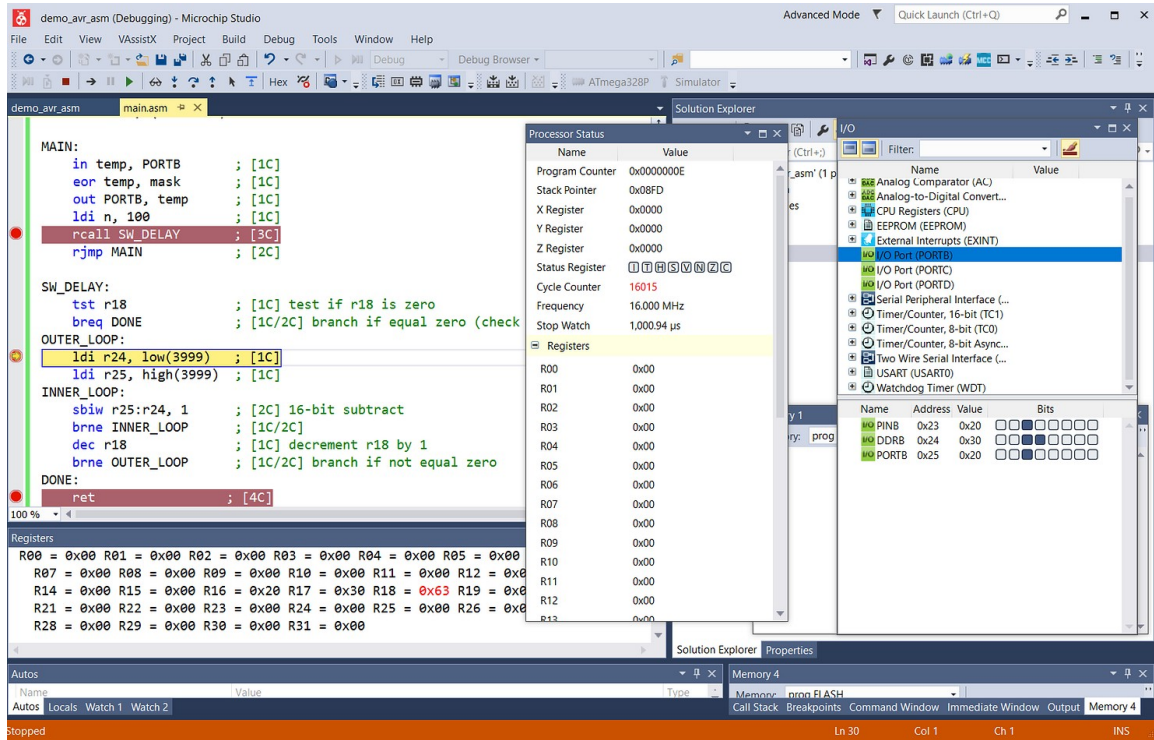

Figure 9: Code debugging using the built-in simulator
- Hint: Set a breakpoint at the **rcall SW\_DELAY** instruction (see **Figure 9**), run the program until the breakpoint is reached, and record the CPU cycle count before and after the subroutine execution.